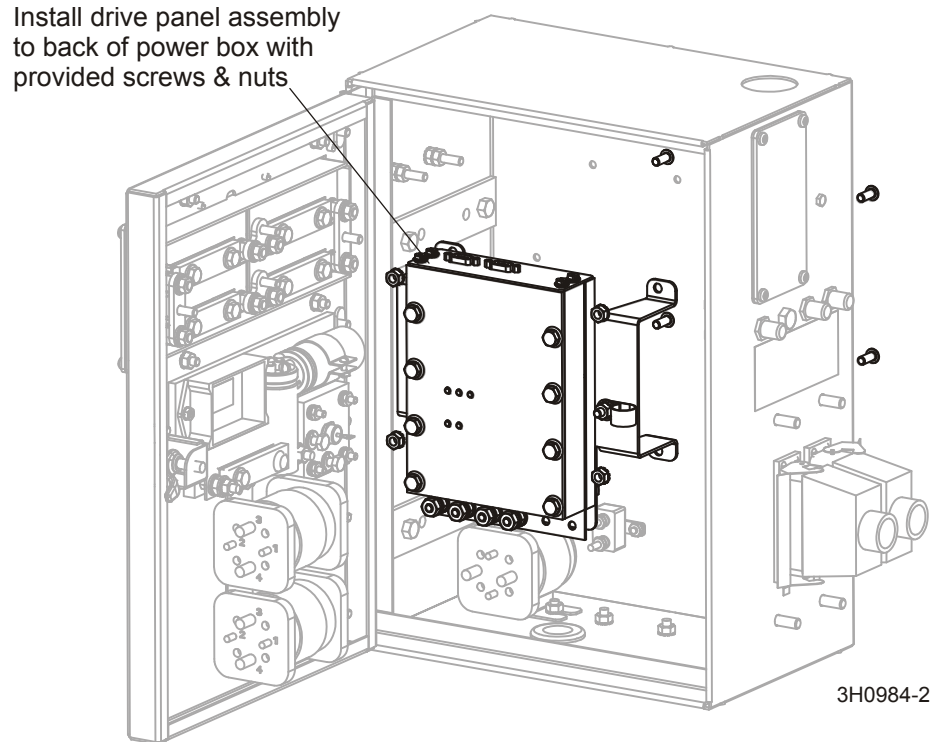

**FIGURE 8**
**See Figure 8.** LT70HD-R & Super LT30HD/LT40HD-R with softstart power feed after 9/04: